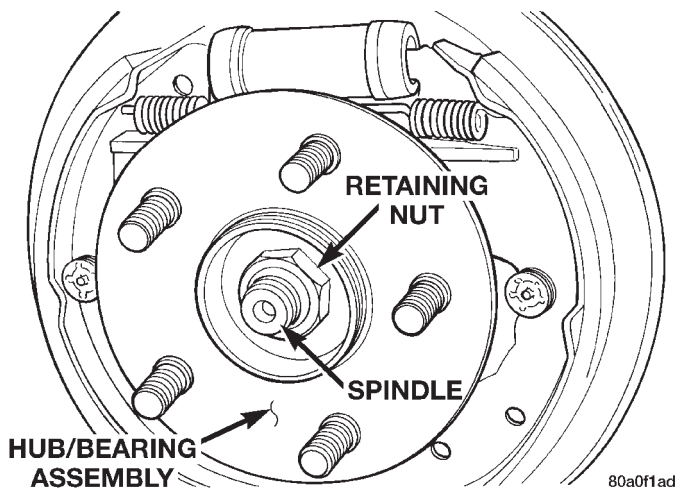

Fig. 73 Hub And Bearing Retaining Nut
(4) Remove the rear hub and bearing assembly retaining nut (Fig. 73). Then remove the hub and bearing assembly from the rear knuckle.
(1) Install the gasket and brake support plate on rear suspension knuckle. Torque the brake support plate to knuckle attaching bolts to 75 N·m (55 ft. lbs.).
(2) Insert parking brake cable end fitting into brake support plate.
(3) Hand start hydraulic brake hose tube fitting to wheel cylinder. Tighten tube nut to a torque of 17 N·m (145 in. lbs.).
(4) Install rear brake shoe assemblies on the brake support plate. Refer to Rear Brake Shoes in the Removal And Installation Section in this group of the service manual for the proper brake shoe assembly installation procedure.
(5) Install rear hub and bearing assembly on rear knuckle. Install a **NEW** hub and bearing assembly retaining nut (Fig. 73). Tighten the hub and bearing assembly retaining nut to a torque of 250 N·m (185 ft. lbs.). Install dust cap.
(6) Adjust brake shoes assemblies so as not to interfere with brake drum installation.
(7) Install brake drum on rear hub/bearing assembly.
(8) Bleed the vehicle's base brakes hydraulic system.
(9) After brake drums are installed, pump brake pedal several times to do final adjustment of the brake shoe assemblies.
(10) Install the wheel and tire assembly. Tighten the wheel mounting stud nuts in proper sequence until all nuts are torqued to half specification. Then repeat the tightening sequence to the full specified torque of 129 N·m (95 ft. lbs.).